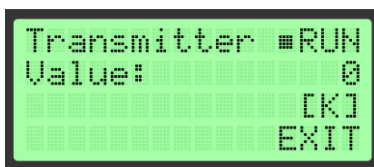

Figure 85 Calibrator in RUN Mode
User can also Start or Stop generating of the output DC Current (See *Figure 85*). By pressing Enter (E) the user will Start simulation of Transmitter and the cursor shape will change from Run (▶) to Stop sign (■). By pressing Enter (E) again the output generation will be stopped and the cursor will revert to its previous shape, Run (▶). The adjusted Measuring Unit is displayed in the squared brackets.